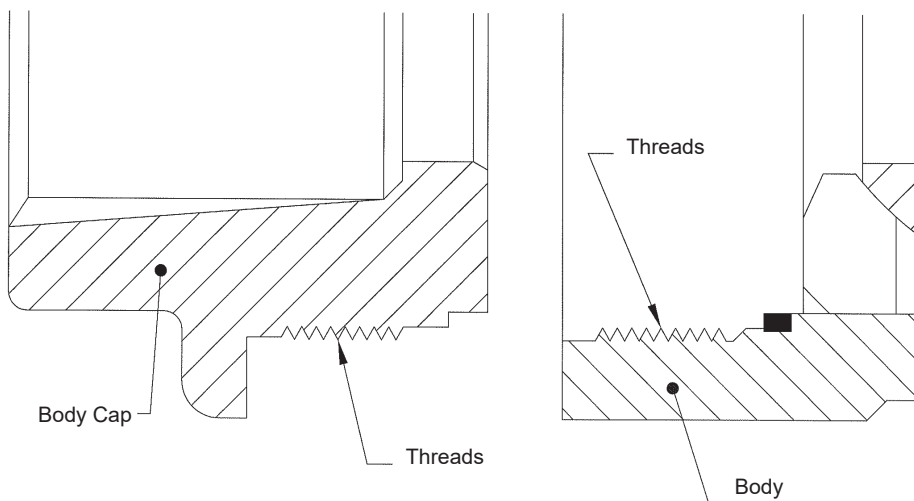

Figure 2
1. Close the valve. Then remove the handle nut (16), handle (15) and lower stem nut (19).
2. Remove the compression ring (18).
3. Hand grind the existing tack welds, and then chisel, to break the remaining weld. Unscrew and remove the body cap (2) and body seal (6).
4. If the ball (3) and seats (5) do not fall from the body with the ball in the fully closed position, use a piece of wood or some other soft material to gently tap the ball (from the end opposite body cap). This will unseat these parts without damaging the ball.
5. Press the stem (4) from the top into the valve body and remove it through the body cap end of the body.
6. Using a wire brush, clean the internal body cap thread and internal body threads (see **Figure 2**).
7. Remove and discard the old stem seals (7), stem bearings (8) and sec. stem seal (13). Be very careful not to scratch any sealing surfaces in the valve body (surfaces on which seats and seal rest).